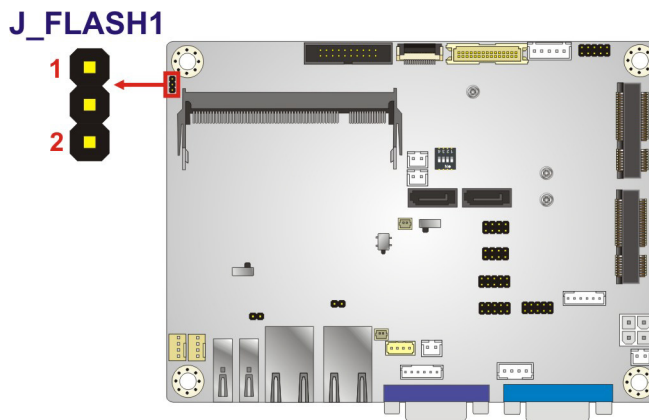

Figure 4-13: Flash Descriptor Security Override Jumper Location
- Jumper Location: See **Figure 4-13**